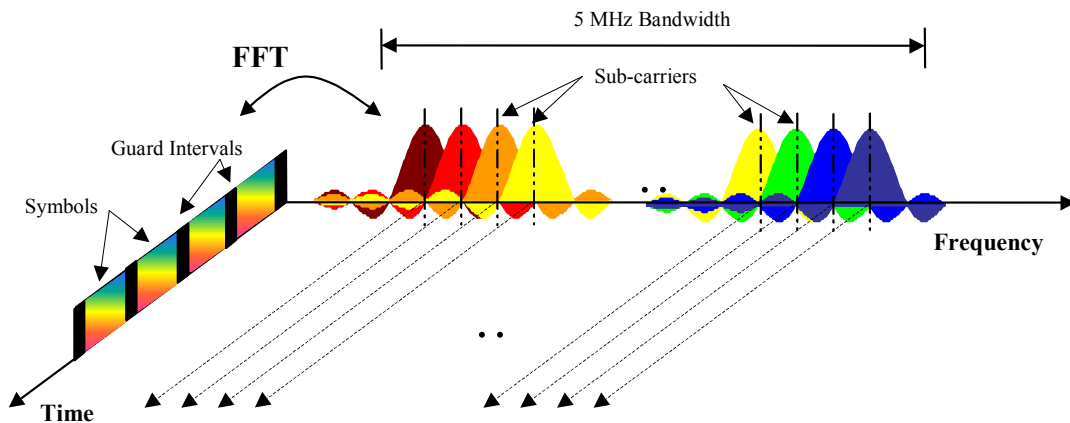

Fig. 1 Frequency-Time Representation of an OFDM Signal
Fig. 1 shows a representation of an OFDM signal taken from [2]. In this figure, a signal with 5 MHz bandwidth is shown, but the principle is of course the same for the other E-UTRA bandwidths. Data symbols are independently modulated and transmitted over a high number of closely spaced orthogonal subcarriers. In E-UTRA, downlink modulation schemes QPSK, 16QAM, and 64QAM are available. In the time domain, a guard interval may be added to each symbol to combat inter-OFDM-symbol-interference due to channel delay spread. In E-UTRA, the guard interval is a cyclic prefix which is inserted prior to each OFDM symbol.
The vector  $\mathbf{s}_m$  is defined as the useful OFDM symbol. It is the time superposition of the  $N$  narrowband modulated subcarriers. Therefore, from a parallel stream of  $N$  sources of data, each one independently modulated, a waveform composed of  $N$  orthogonal subcarriers is obtained, with each subcarrier having the shape of a frequency *sinc* function (see Fig. 1).
One downlink slot consists of  $N_{\text{symp}}^{\text{DL}}$  OFDM symbols. To each symbol, a cyclic prefix (CP) is appended as guard time, compare Fig. 1.  $N_{\text{symp}}^{\text{DL}}$  depends on the cyclic prefix length. The generic frame structure with normal cyclic prefix length contains  $N_{\text{symp}}^{\text{DL}} = 7$  symbols. This translates into a cyclic prefix length of  $T_{\text{CP}} \approx 5.2\mu\text{s}$  for the first symbol and  $T_{\text{CP}} \approx 4.7\mu\text{s}$  for the remaining 6 symbols. Additionally, an extended cyclic prefix is defined in order to cover large cell scenarios with higher delay spread and MBMS transmission. The generic frame structure with extended cyclic prefix of  $T_{\text{CP-E}} \approx 16.7\mu\text{s}$  contains  $N_{\text{symp}}^{\text{DL}} = 6$  OFDM symbols (subcarrier spacing 15 kHz). The generic frame structure with extended cyclic prefix of  $T_{\text{CP-E}} \approx 33.3\mu\text{s}$  contains  $N_{\text{symp}}^{\text{DL}} = 3$  symbols (subcarrier spacing 7.5 kHz).